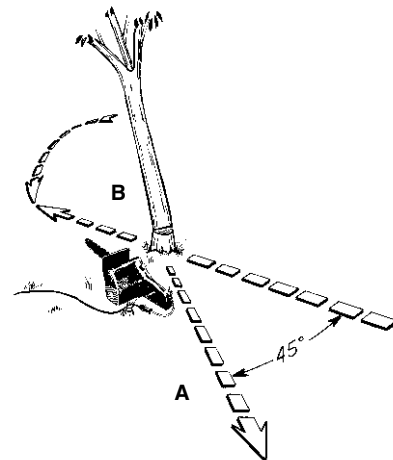

Fig.17
**WARNING:** A retreat path (A) should be planned and cleared as necessary before cuts are started. The retreat path should extend back and diagonally to the rear of the expected line of fall, as illustrated in Figure 17.
**NOTE:** Direction of fall (B) is controlled by the notching cut. Before any cuts are made, consider the location of larger branches and natural lean of the tree to determine the way the tree will fall.
<p>When tree begins to fall, remove saw from cut, stop engine, put chain saw down, and leave area along retreat path (Figure17).</p>